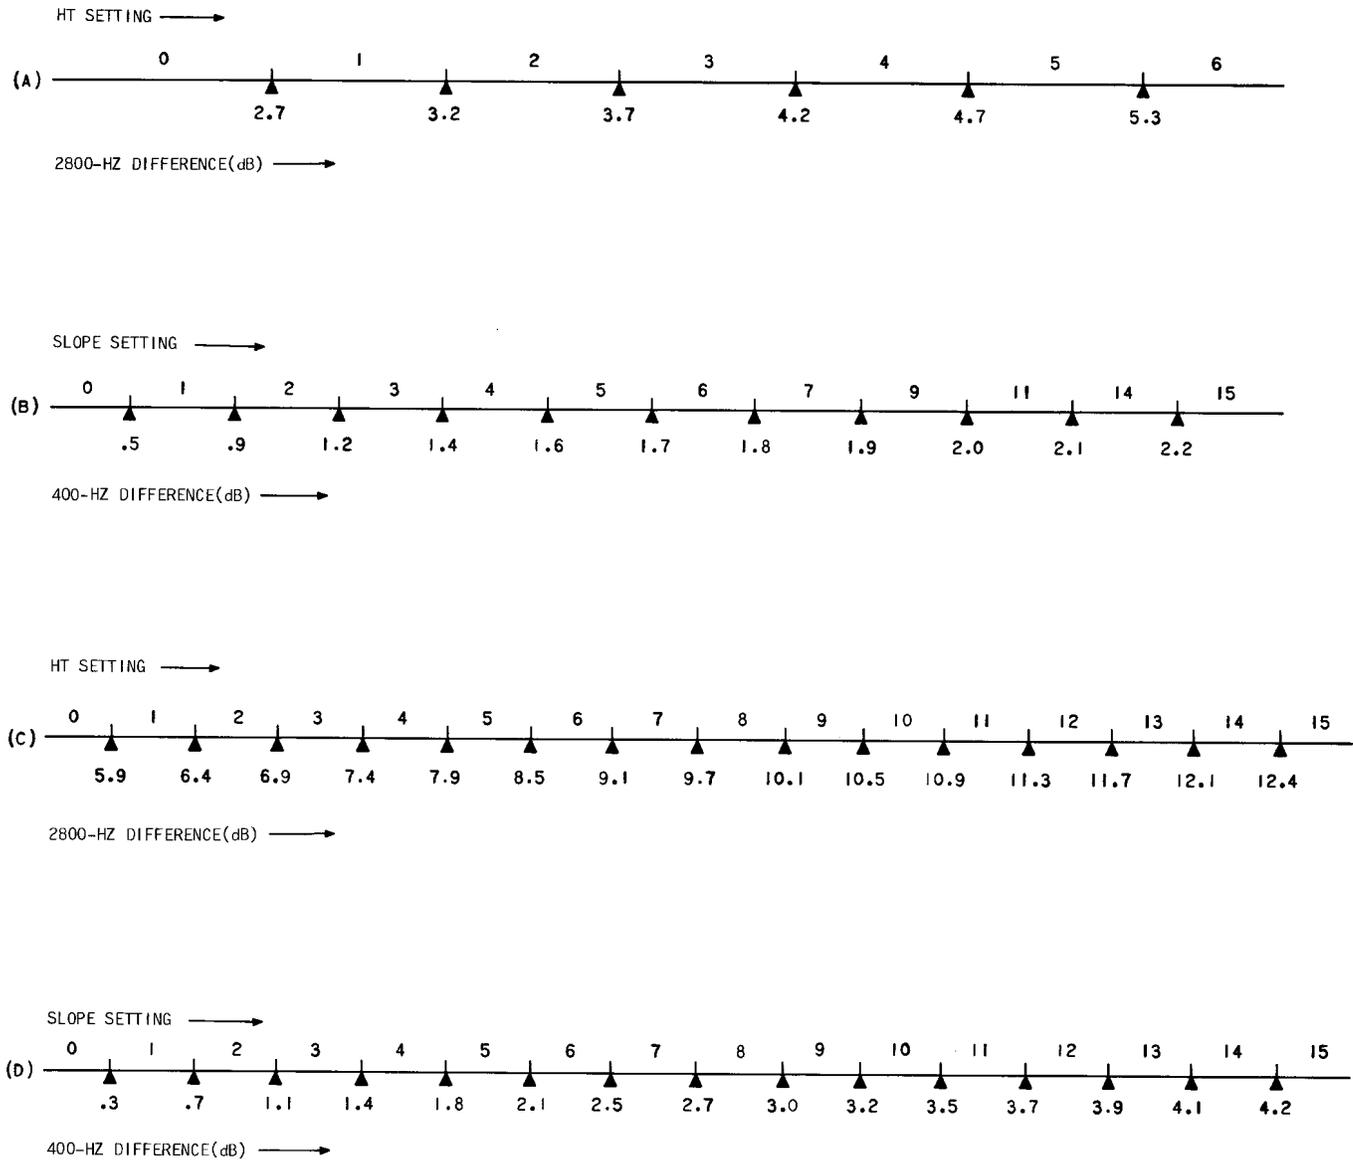

Fig. 22—Loss Range Charts For Obtaining 309B Equalizer Settings
From Fig. 22(A) HT = 1 when 2800-Hz difference = 3.1 dB.
From Fig. 22(B) SLOPE = 4 when 400-Hz difference = 1.4 dB.
4	From Fig. 22(C) HT = 6, and from Table F the 400-Hz adjustment is 0.6.
From Fig. 22(D) SLOPE = 9
From Fig. 22(A), select HT setting and enter in Step 6.
From Fig. 22(B), select SLOPE setting and enter in Step 6.
From Fig. 22(C), select HT setting and enter in Step 6.
From Fig. 22(D), select SLOPE setting and enter in Step 6.